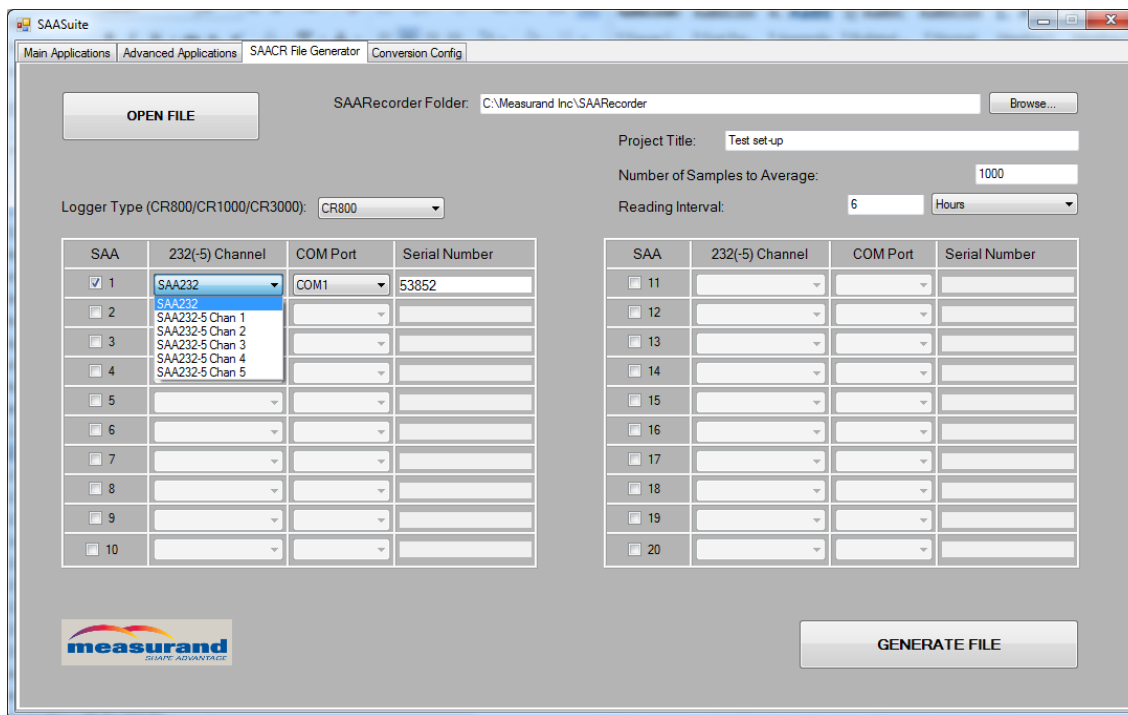

Figure 6.7: SAA232 or SAA232-5 Channel selection.
- a. SAA232 or SAA232-5 Channel that the SAA is connected to (See Figure 6.7);